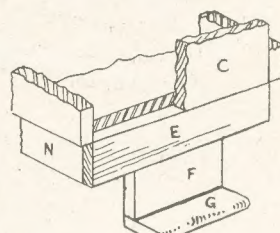

Fig. 3—The back and step
Turning again to the body of the coach we next cut and fit two rails (N) on the underside of the floor. In Fig. 3 the position of these can be seen to be just inside the thickness of the sides (B), with back rail (E) fitting on to it. This rail comes flush with the back (C) of the coach as seen in Fig. 3. Pieces (F) and (G) measure $1\frac{1}{2}$ in. long by $\frac{3}{8}$ in. and $\frac{1}{2}$ in. wide respectively and form the step up into the coach. The two rails (N) are shaped